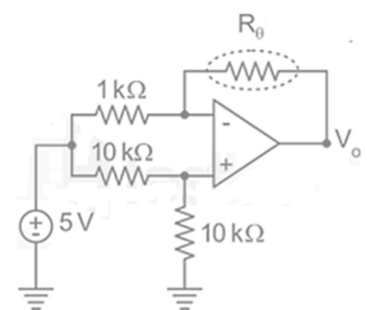

Fig. 4
- (b) Find the output voltage expression and output voltage sensitivity of circuit (shown in Fig. 4) in  $\text{mV/K}$  at 293 K.